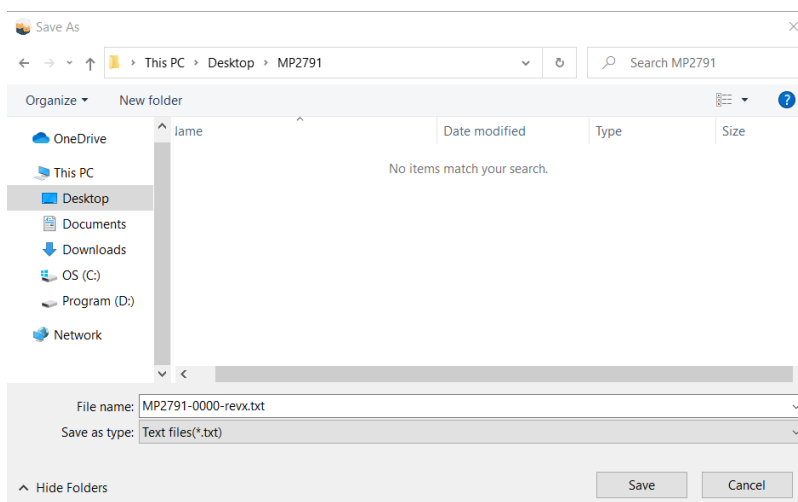

Figure 11: Save the Exported Configuration to the Desired Location
6. Find a location for the exported file, rename the file if necessary, and click “Save.” The configurations are saved in a text file (see Figure 11 on page 12).